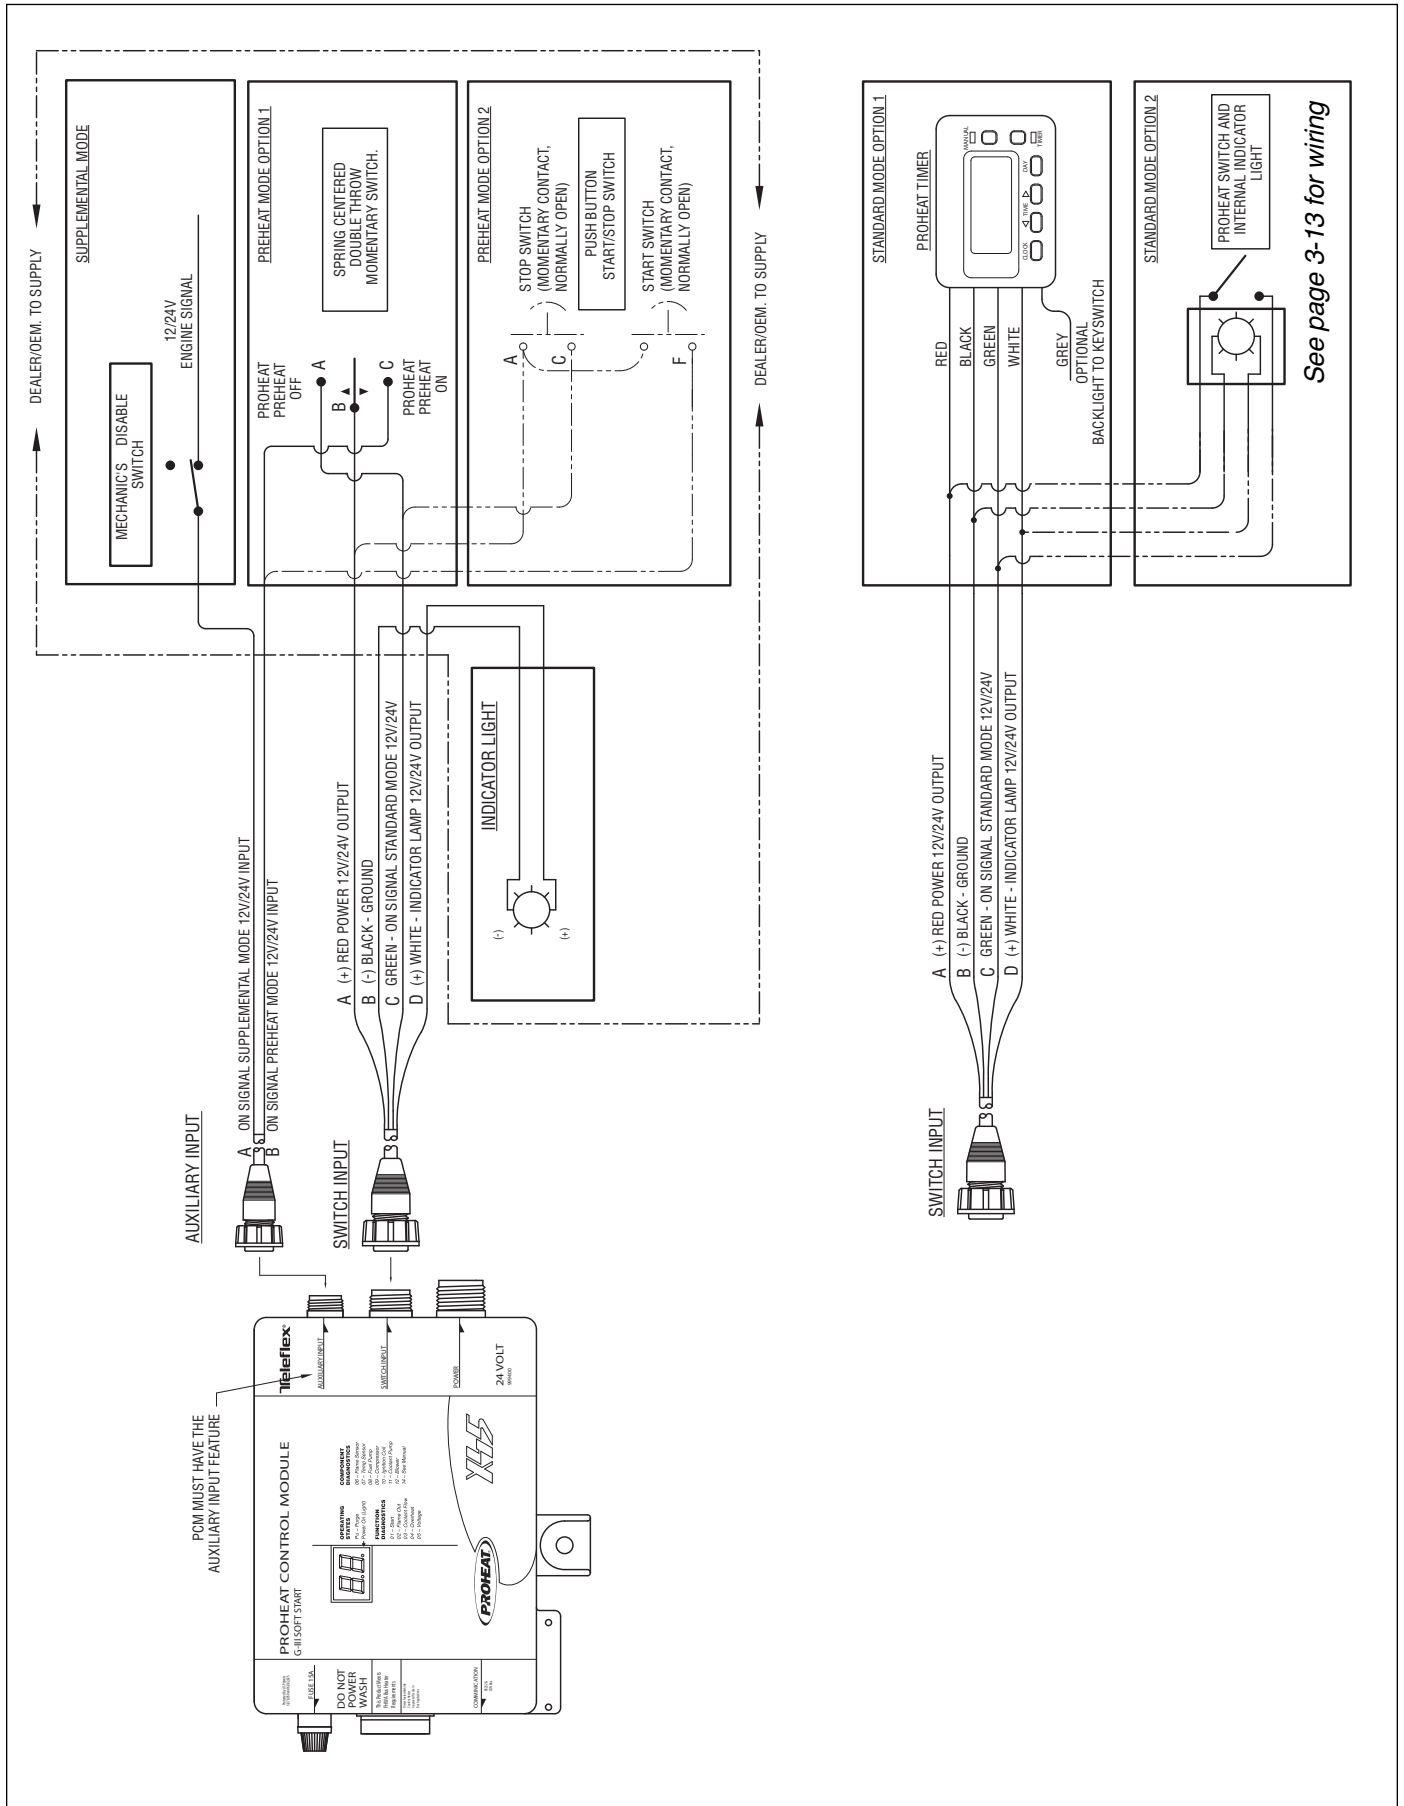

Figure 3-29 Preheat and Supplemental Wiring Diagram.
1. Select the operation mode of choice. Note that Preheat may be wired as Preheat Option 1 or Preheat Option 2 as shown in Figure 3-29. In addition, note to that the engine run signal may be off the alternator, multiplex or others.
2. Wire the Preheat Mode or Supplemental Mode as shown in Figure 3-29. Install hardware as required on the vehicle.
2. Install hardware as required on the vehicle as shown in Figure 3-29.
3. Choose either Preheat Option 1 or Preheat Option 2. Install hardware as required on the vehicle as shown in Figure 3-29.
1. Install the timer as per Section 3.5.3 or the switch as per Section 3.5.4. See Figure 3-29.